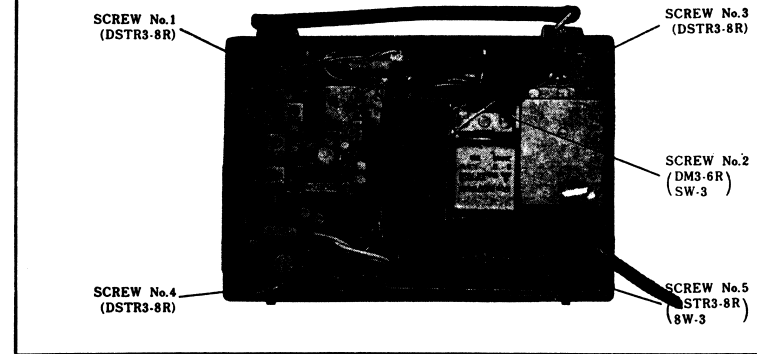

Fig. 3 Conductor View - Disassembly Parts.
To Remove Chassis (Refer to Fig. 3.)
1. Remove two (2) knobs for volume and tuning controls.
2. Remove one (1) screw from the cabinet back cover.
3. Remove five (5) red chassis mounting screws, Nos. 1~5, as illustrated Fig. 3.